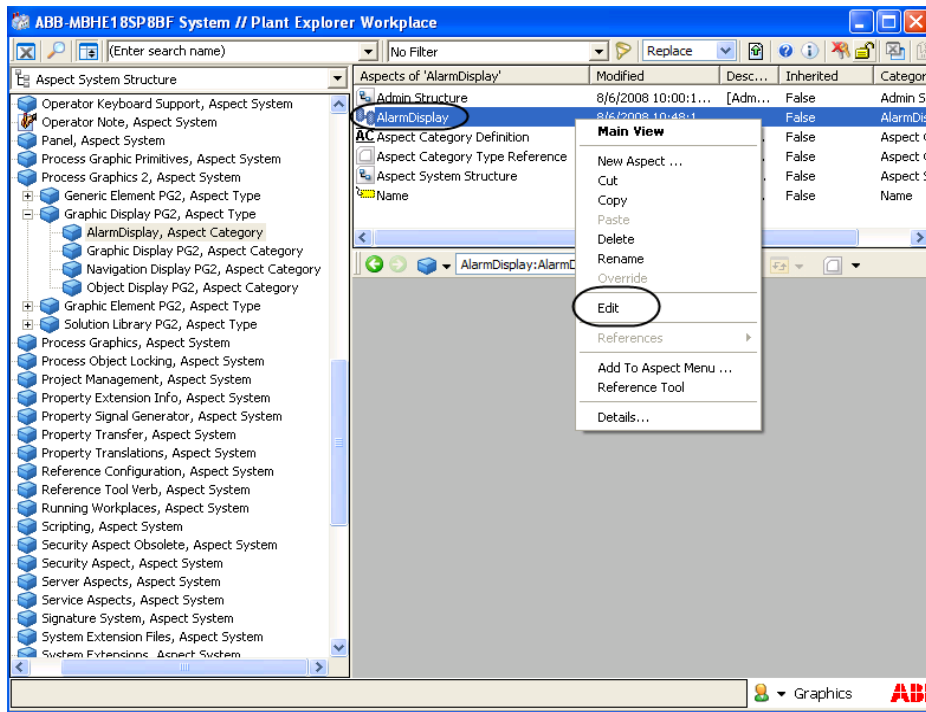

Figure 259. Context menu of the new aspect
- Right-click the newly created aspect and select **Details** from the context menu as shown in Figure 259. The **Details** dialog appears.